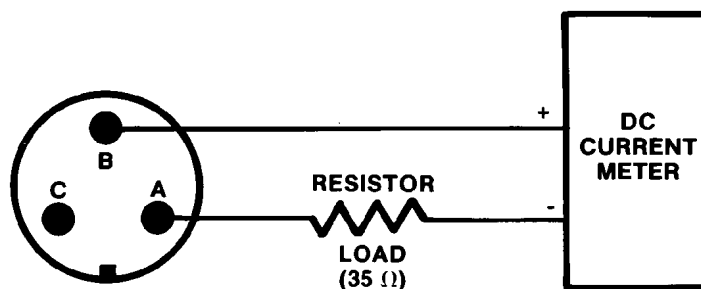

Figure 1-9. Transducer Connected to DC Meter
1. Connect a resistive load ($35\ \Omega$ recommended) and a calibrated dc current meter capable of 350 mA to pins A and B of transducer connector (see Figure 1-9).